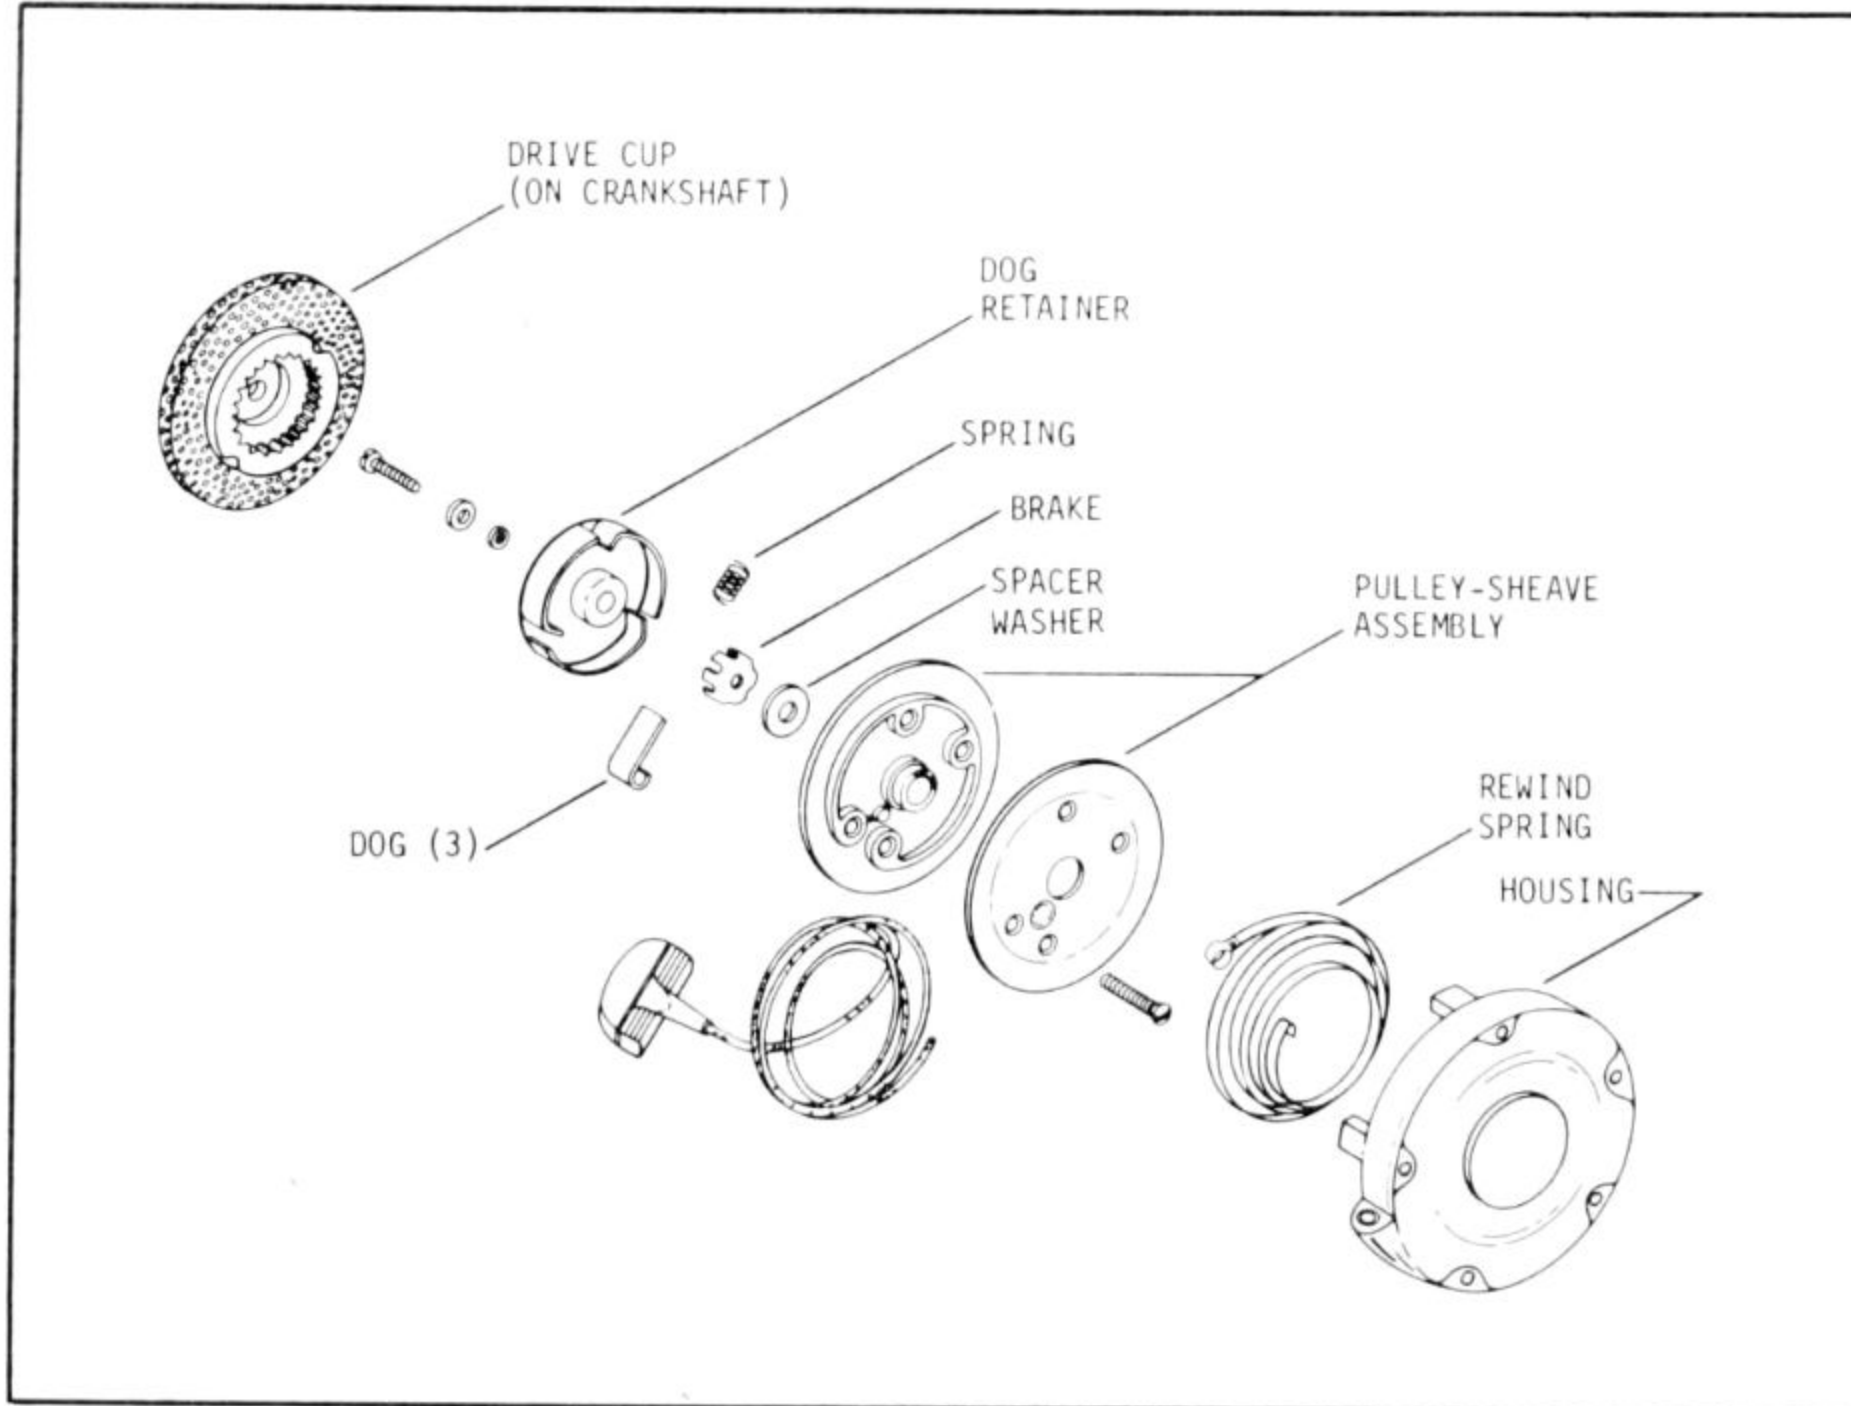

Fig. 4-12. Eaton heavy-duty starter of the type used on some Kohler engines. Note brake start washer, three-dog clutch, and split sheave.
Figure 4-12 shows top-of-the-line Eaton starter used on industrial engines. Service procedures are slightly more complex than for lighter-duty units because the sheave is split. This makes rope replacement more difficult, and the mainspring, which is not held captive in a retainer, can thrash about when the sheave is removed.
6. Remove rope, which may be knotted on the inboard side of sheave or which may be sandwiched between sheave halves as shown in Fig. 4-12. Screws that hold sheave halves together might require a hammer impact tool to loosen.